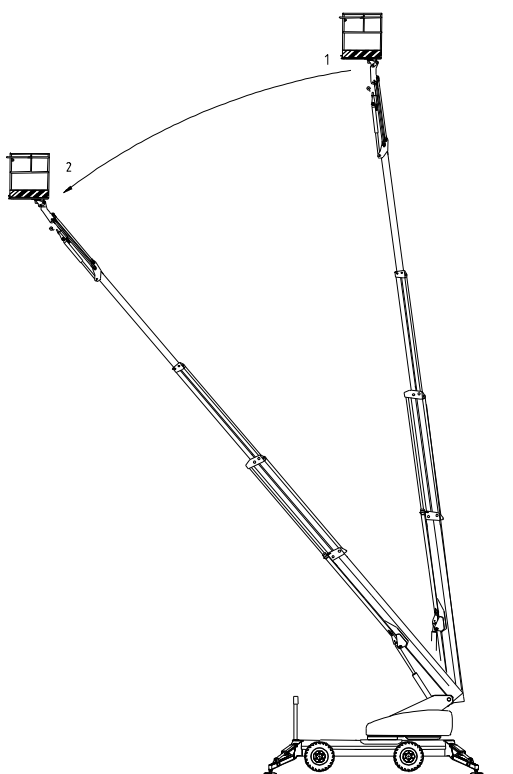

Figure 13 Checking the lifting radius
2. With the boom raised all the way up, extend the boom extensions fully out with the telescope (figure 13, position 1).
3. Then lower the boom with the lowering push-button until the load control stops the movement (figure 13, position 2).